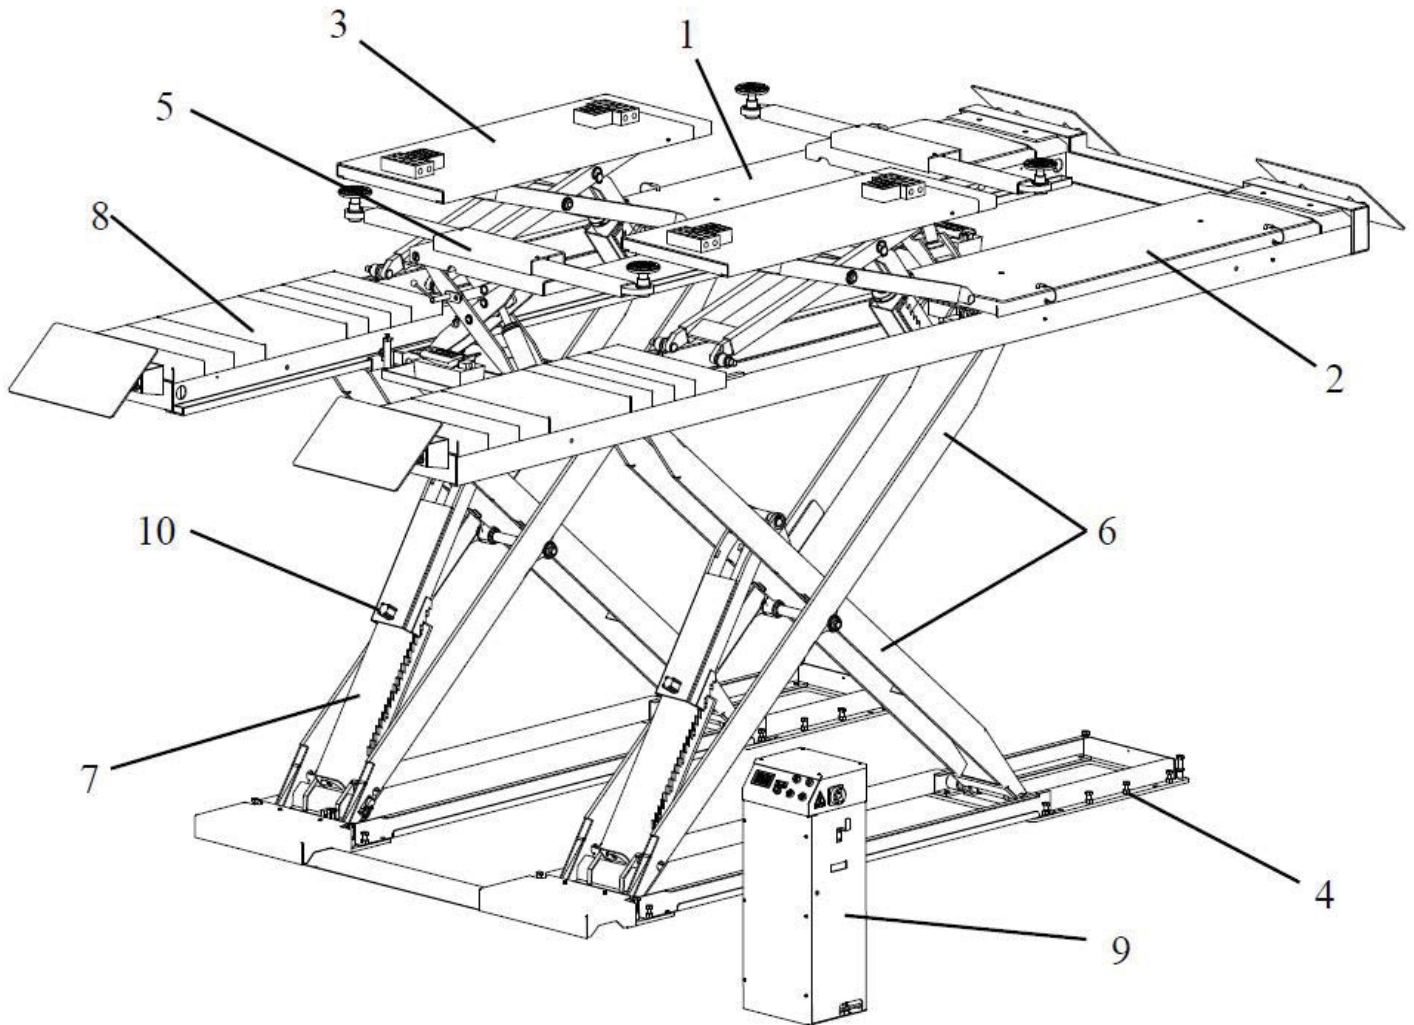

Figure 2 – Lift
4.1 Lift Description (Ref. Figure 2)
This chapter describes the lift's principal elements, allowing the user to be familiar with the machine. As shown in figure 2, the lift is composed of two runways: P1(1) and P2 (2) with two wheel free jacks (3), anchored to the ground by means of its base (4). At a special request, two jack beam (5) can be supplied and operated by an air-hydraulic pedal pump.